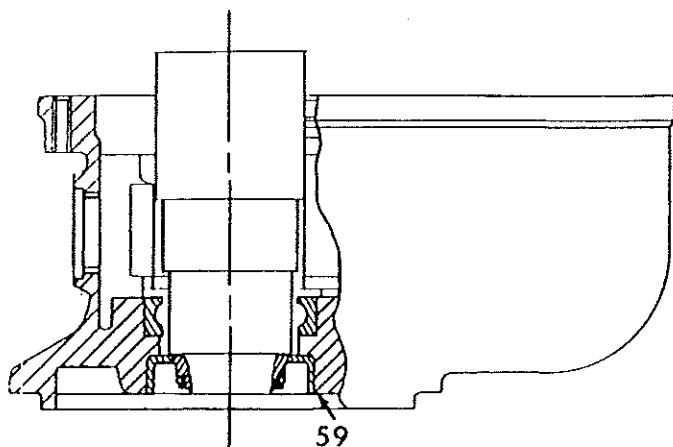

Figure 404. Pressing Oil Seal Out of Housing
- A. Support magneto housing, mounting flange down, on base plate of an arbor press using a block of wood to protect the impulse coupling stop pins (60). Insert the 11-6924-1 Pressing Tool through bearing outer race until it seats against oil seal (59, figure 404) as shown. Press oil seal out and discard.